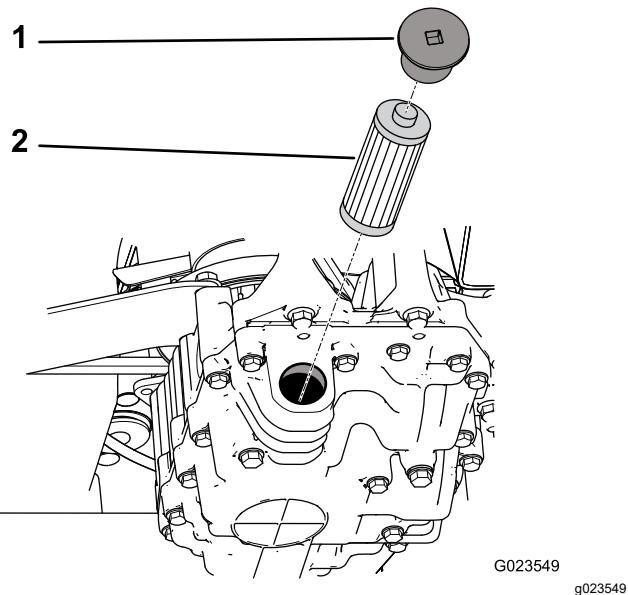

Figure 70
4. Remove the filter cap, and pull the filter out of the transmission (Figure 70).